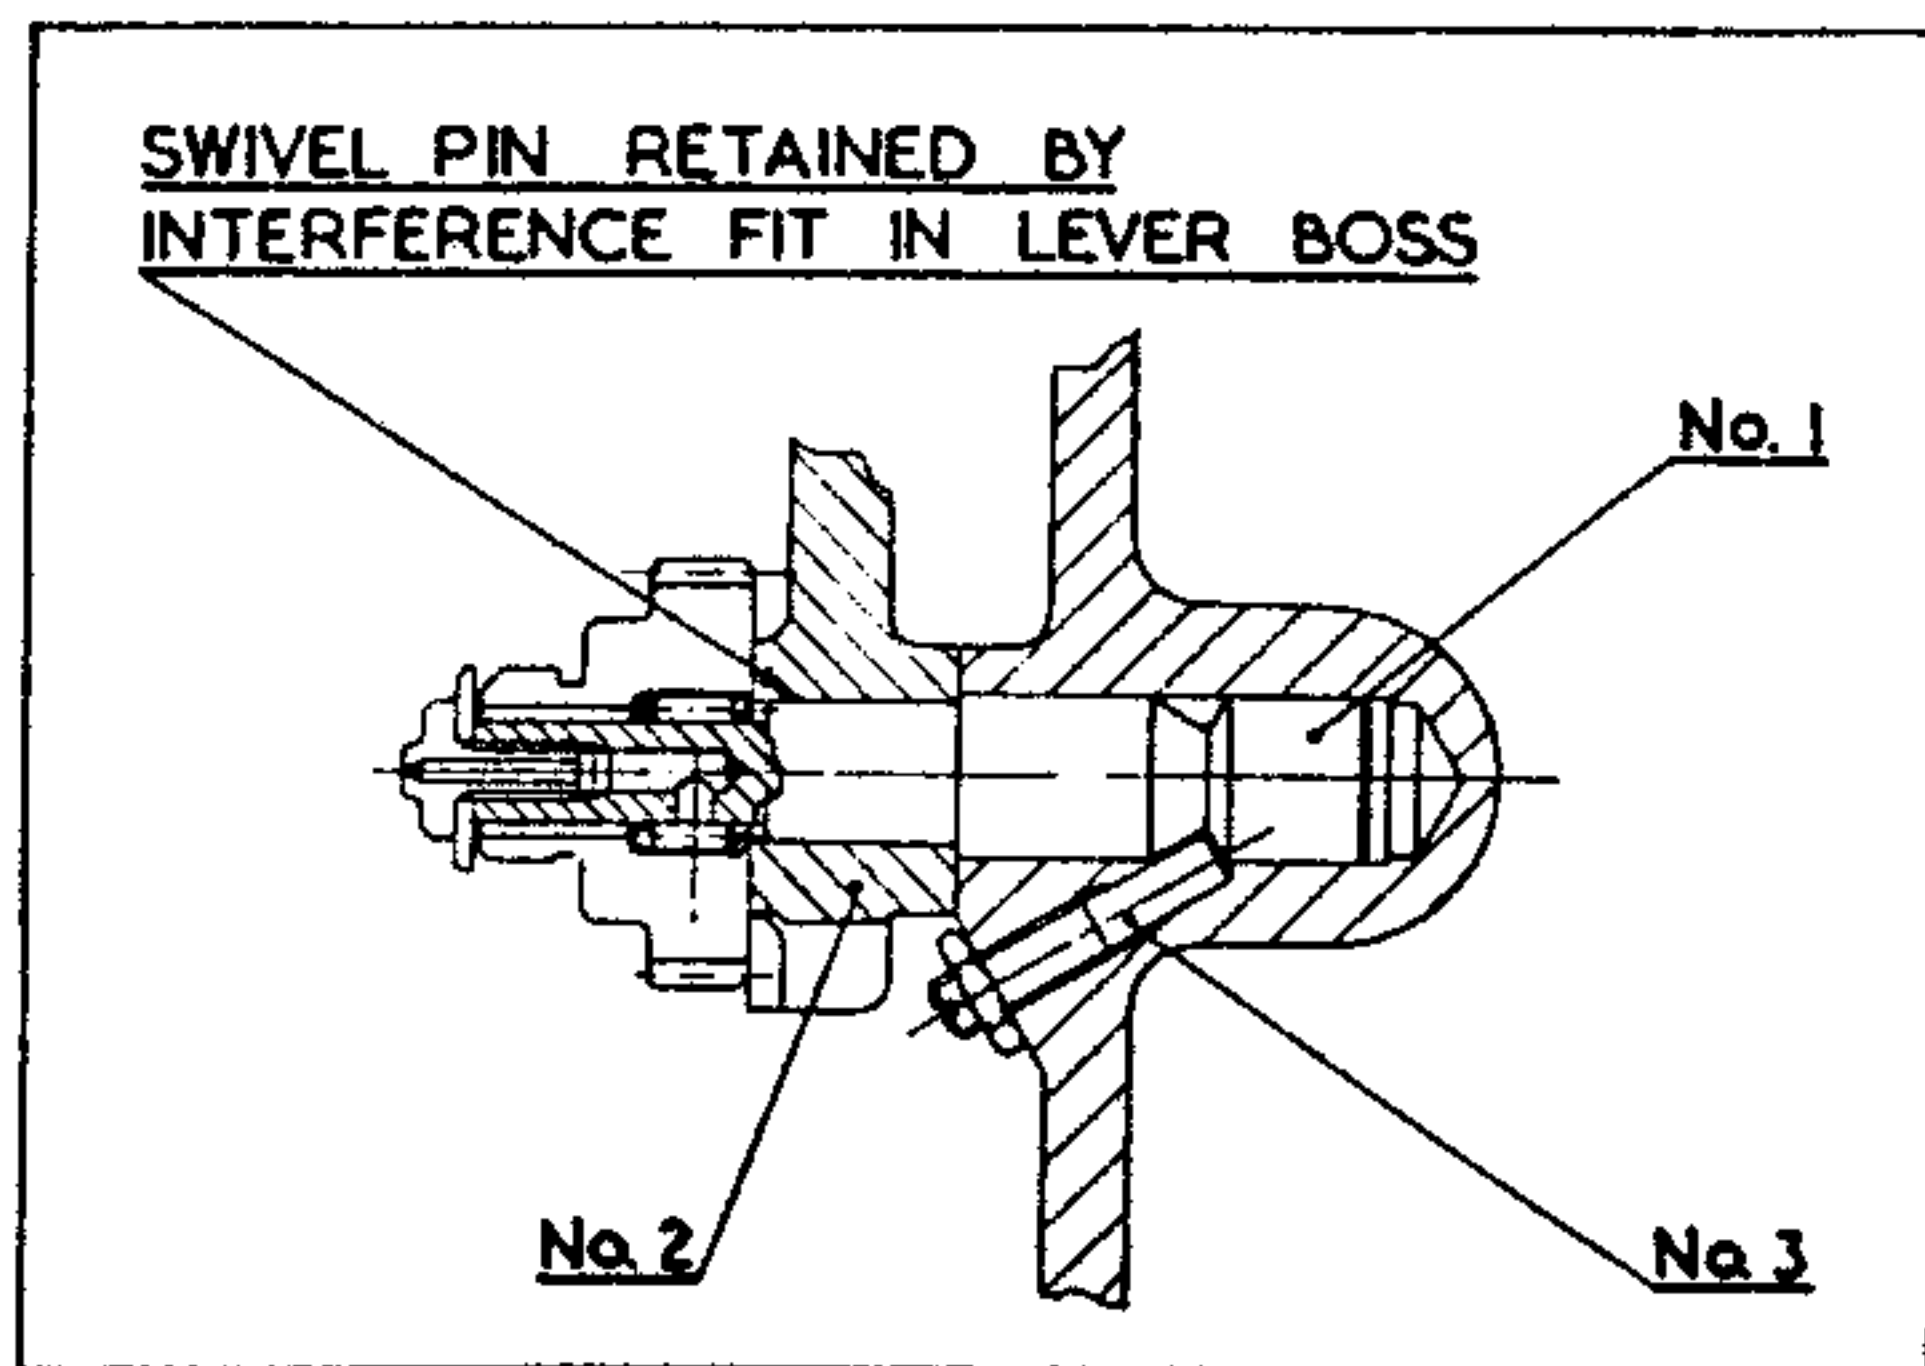

Fig. 36
Reference to Fig. 36 will show that the tumbler reverse assembly is supported on the headstock by a long swivel pin (1) which is a press fit in the tumbler reverse lever (2). The assembly is retained in position by the thrust screw (3) which draws the tumbler reverse lever back against the pivot boss facing on the headstock.